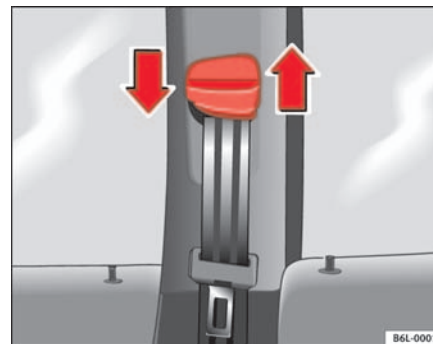

Fig. 16 Location of the belt height adjuster
- Press the upper part of the shoulder belt guide and hold it in this position ⇒ page 25, fig. 16.